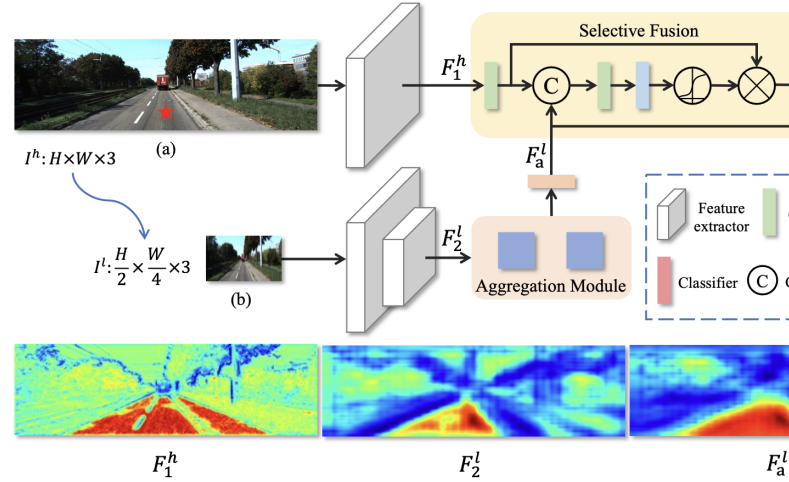

Figure 1: Architecture overview of the LFD_Roadseg neural network, detailing the dual-stream feature extraction and Selective Fusion module.
- **Model Deep Dive (LFD_Roadseg):** For our core lane detection, we utilized the LFD_Roadseg architecture, which employs a dual-stream design to balance high-speed inference with accurate spatial resolution. As shown in Figure 1, the model processes two inputs simultaneously: a high-resolution image ($H \times W$) to preserve fine, pixel-level details like thin lane boundaries, and an aggressively downsampled low-resolution image to quickly capture the broader, global context of the road.